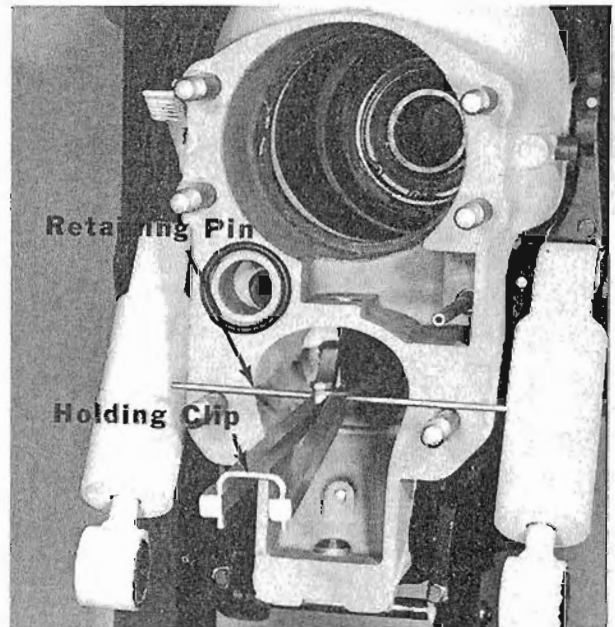

Figure 2. Installing Holding Clip into Tool Handles
2. Push handles of tool together, thus causing inner end to expand and catch in the first convolution of the bellows, then install the holding clip into handles. (Figure 2)
3. Pull out on tool to pull bellows over flange on bell housing and place retaining pin thru tool, allowing retaining pin to rest on bell housing. (Figure 2)